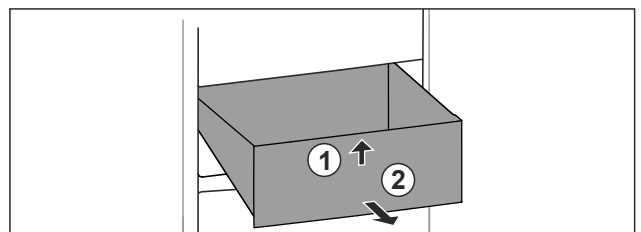

Fig. 73
- ▶ Lift up drawer at the front. Fig. 73 (1).
- ▶ Remove drawer to the front. Fig. 73 (2).